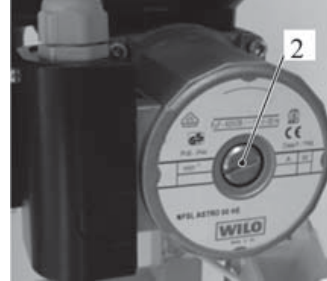

Figure 15.2
- Purge the air from the pump by unscrewing the pump plug 2 (Fig. 15.2); release the pump by turning the rotor in the direction indicated by the arrow on the information plate.